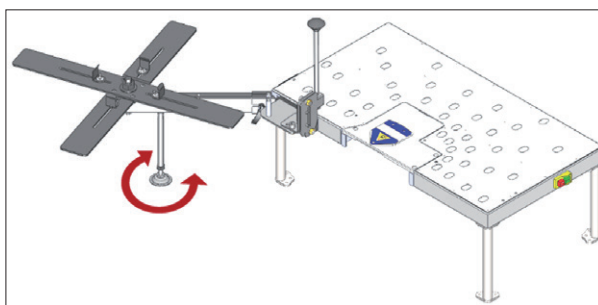

Fig. 8
- Adjust (Fig8) to make sure the dsipenser is the same height with worktable.